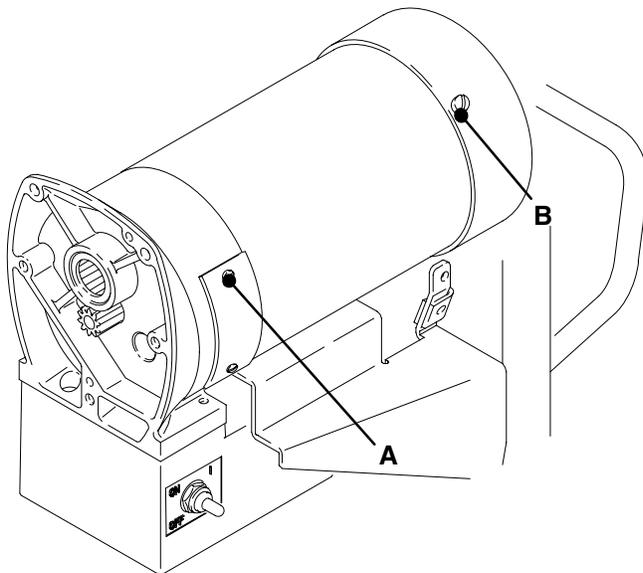

Fig. 3
3. Fig. 3. Remove brush inspection covers (A).
1. Remove fan cover (B). See Fig.3.